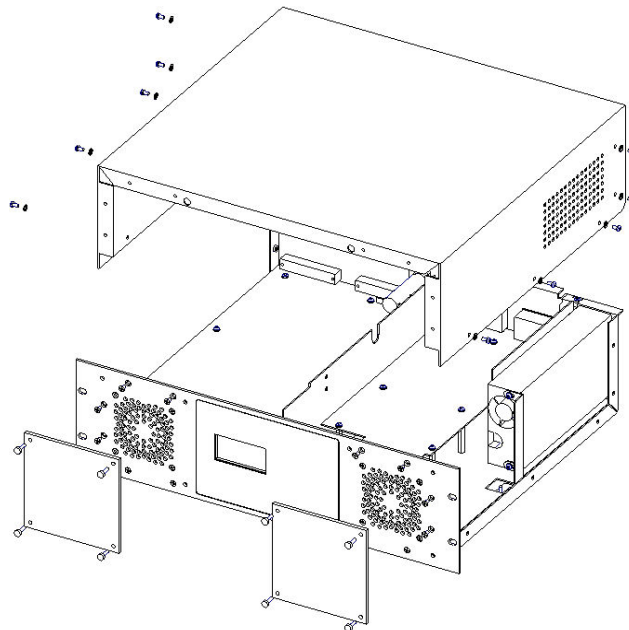

Figure 2 Removing the Top Cover
- 4.1.3 Using a #1 Robertson or a 3/16" flat screwdriver remove the ten #6-32 x 1/4" Robertson slot screws with #6 internal tooth washers from the sides of the enclosure (5 screws on each side, 3 along the bottom and 2 at the back). See Figure 2.